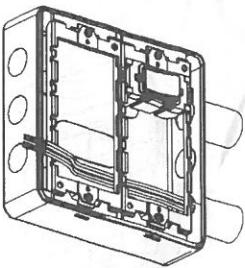

Fig. 3a
- Clip the modules to the grid, see fig. 3a